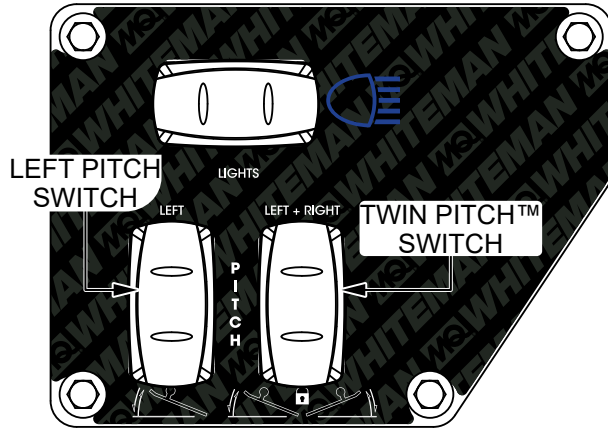

Figure 27. Blade Pitch Switches
1. Press **UP** or **DOWN** on the **Twin Pitch™** switch (Figure 27) to change pitch on both rotors simultaneously (but non-synchronously).
2. Press **UP** or **DOWN** on the **Left Pitch** switch (Figure 27) to change pitch on the left rotor only. The right rotor pitch will remain constant.